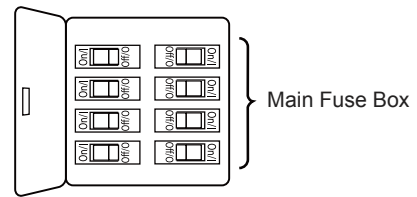

Figure 1
- 1. To set the code on receiver unit, slide dip switches to the same positions as set on the remote control. (Figure 1)